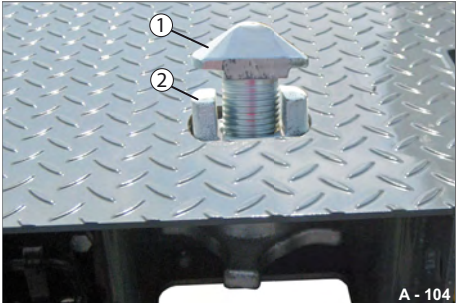

Fig. 157 Locking point extended
- Raise and rotate the clamping nuts and the pivot pin (Fig. 157/1) simultaneously.
The guide bush (Fig. 157/2) comes out the top.